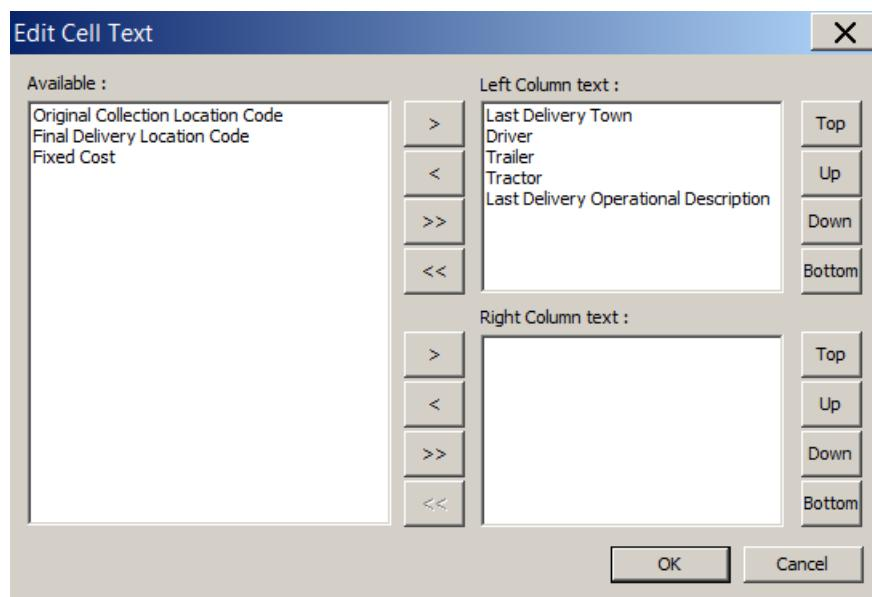

Figure 200
2. The Edit Cell Text window is displayed (Figure 200)
The Edit Cell Text window is displayed (Figure 200)